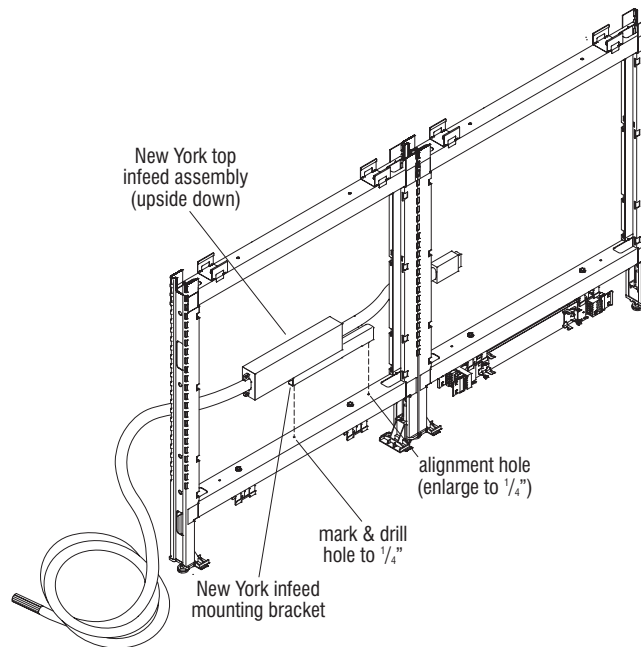

Figure 17 - New York Top Power Infeed
1. One mounting hole must be marked then drilled, and another must be enlarged for mounting of the New York infeed mounting bracket to the lower horizontal frame rail. To create mounting holes, first position the New York top power infeed assembly upside down on the lower horizontal rail as illustrated and align the mounting hole of the bracket to the pre-drilled hole closest the frame side rail. Be sure the infeed assembly is centered onto the horizontal rail using the New York infeed mounting bracket as a guide and mark the second mounting hole to the lower horizontal rail. Drill a hole  $\frac{1}{4}$ " diameter at the second marked location. At the first alignment hole location, drill the  $\frac{11}{64}$ " hole out to  $\frac{1}{4}$ " (Figure 17).